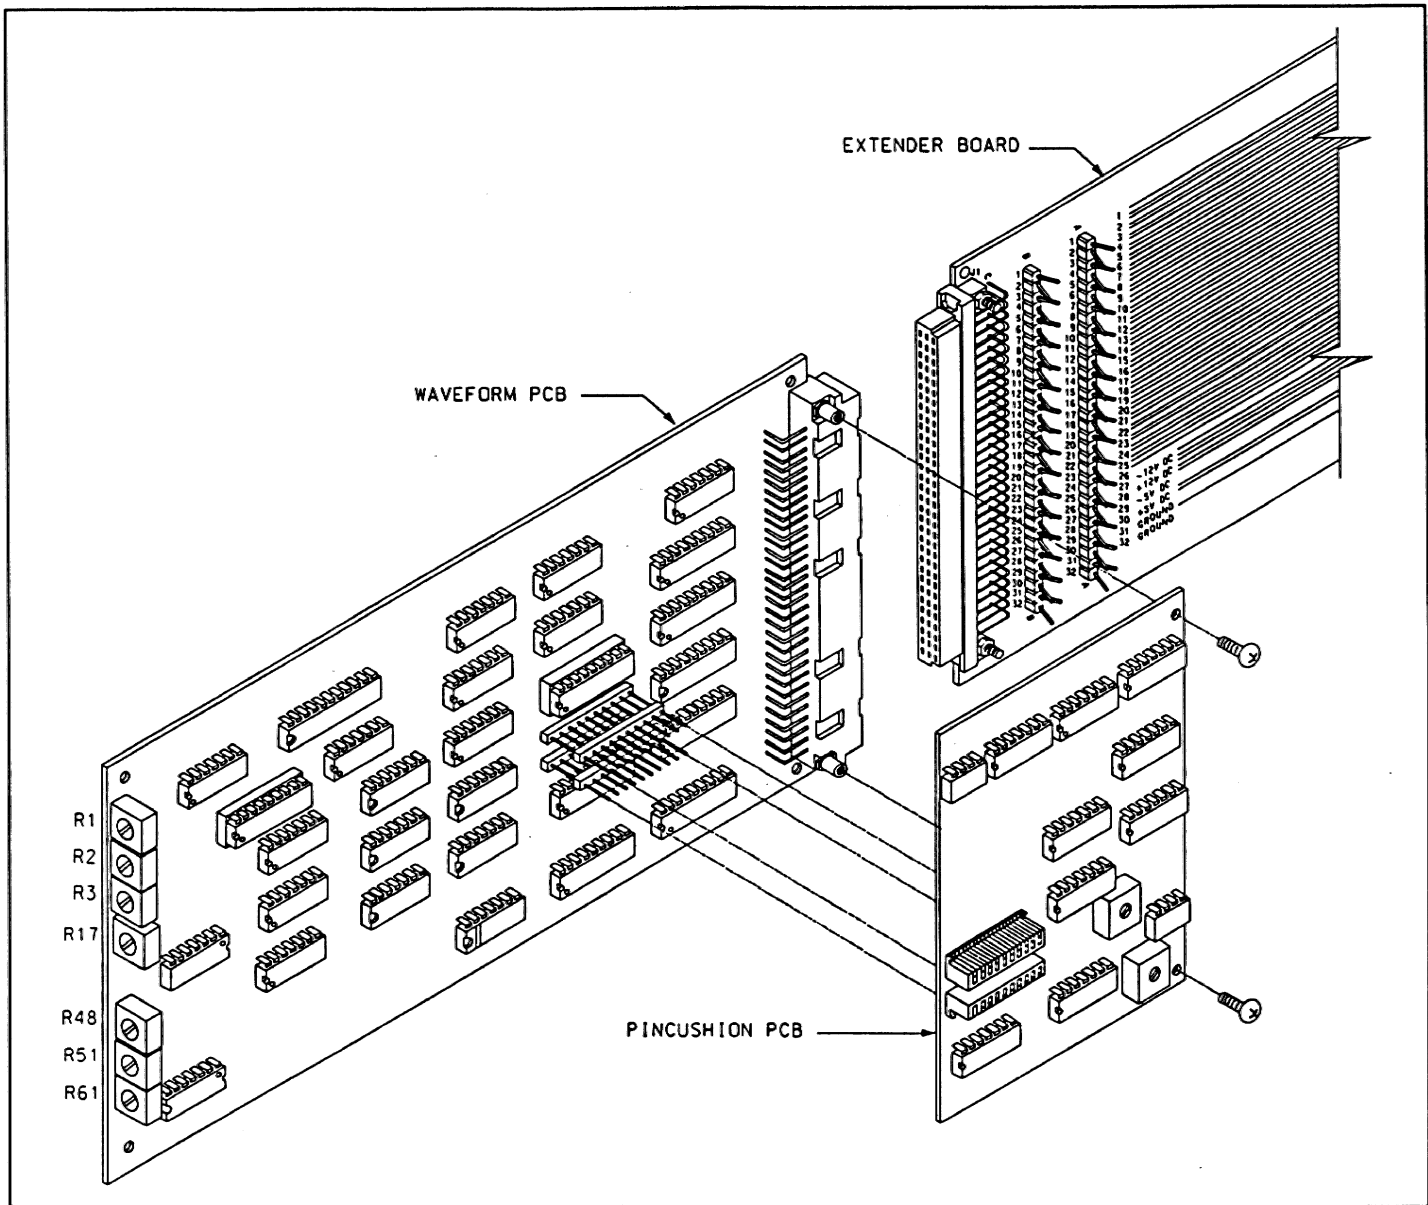

FIGURE 12-4. Waveform Module Alignment/Pincushion PCB Removal
**NOTE: To remove the Pincushion PCB from the Waveform PCB, refer to Figure 12-4.**
Reference Figure 12-4.